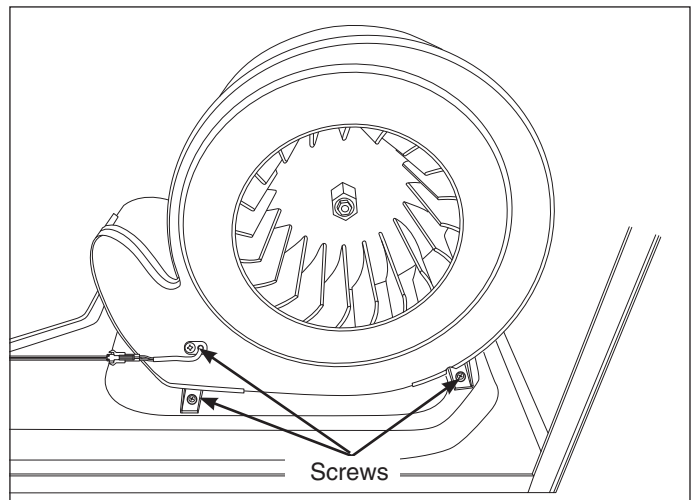

Figure 4-39.
4. Extract the screw securing the blower outlet thermistor to the blower assembly and then pull from blower assembly. (See Figure 4-39)
5. Extract the two screws securing the blower assembly to the unit base. (See Figure 4-39)